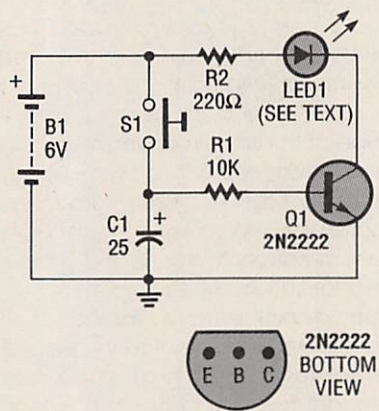

Fig. 1. This circuit will keep the LED illuminated for about ten seconds.
**The Circuit.** The schematic for the DoorLite is shown in Fig. 1. As you can